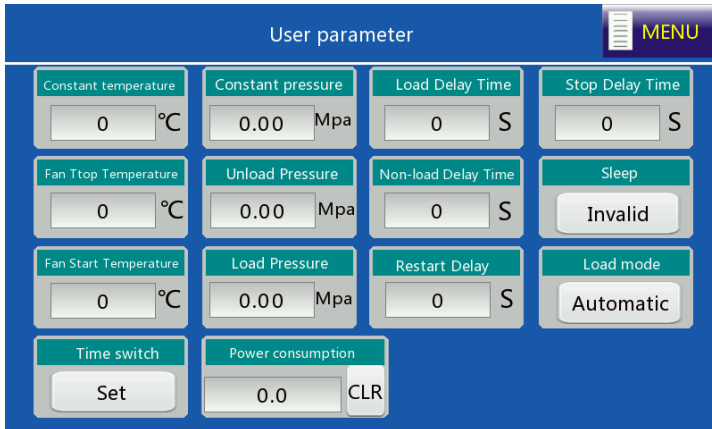

Figure 4-10 User parameter interface
6. Choose **User parameters** in the menu. The interface shown in Figure 4-10 is displayed.